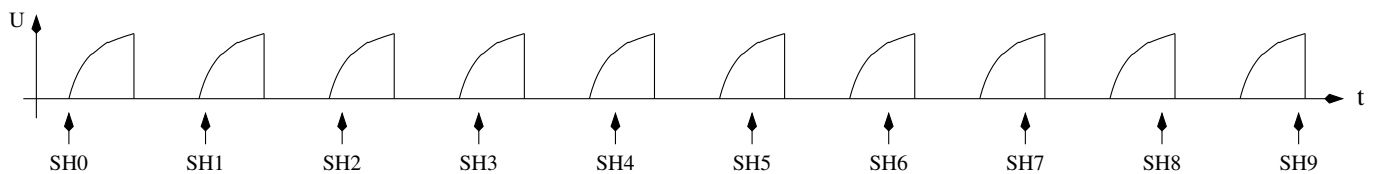

Figure 5.30. Scanning of a voltage curve with the sampling technique
The radio amateur Pieter-Tjerk (PA3FWM) has integrated the measurement capability for very small capacity values ($< 100\text{pF}$) with the sampling technique. The conversion period of the ADC is in fact too long for sampling a fast signal directly. But the voltage of the input signal is hold at a specified time of the conversion cycle, the Sample and Hold (SH) time. The ADC need 13 clock cycles for a total conversion and the ADC clock is build by dividing the processor clock by 128 or 64. The input voltage is fixed at exactly ADC clock number 1.5 for continuous cycles. If the input signal can be generated again and again, we can shift the sample time of the ADC from one to the next signal repetition, so that we get a sample sequence of the fast signal. A normal ADC cycle takes $13 \times 64 = 832$ clock cycles with a 8 MHz processor clock. If we repeat the input signal with a 831 clock cycle, a uninterrupted ADC (free run mode) would sample the signal one processor clock tick later for every following signal repetition. We must make sure with this method, that the first ADC sampling of the signal is done at the requested starting time. The time of the following ADC samples would be shifted by one processor clock tic later for every next signal repetition. If the signal can be repeated exactly, the combined signal of many periods is the same, which would be sampled and converted directly with a ADC running with the processor clock (8 MHz). Figure 5.30 shows the principle of sampling a ten times repeated signal to get 10 samples (SH0 - SH9). In reality the relativ time shift of successive samples is much smaller than shown here.